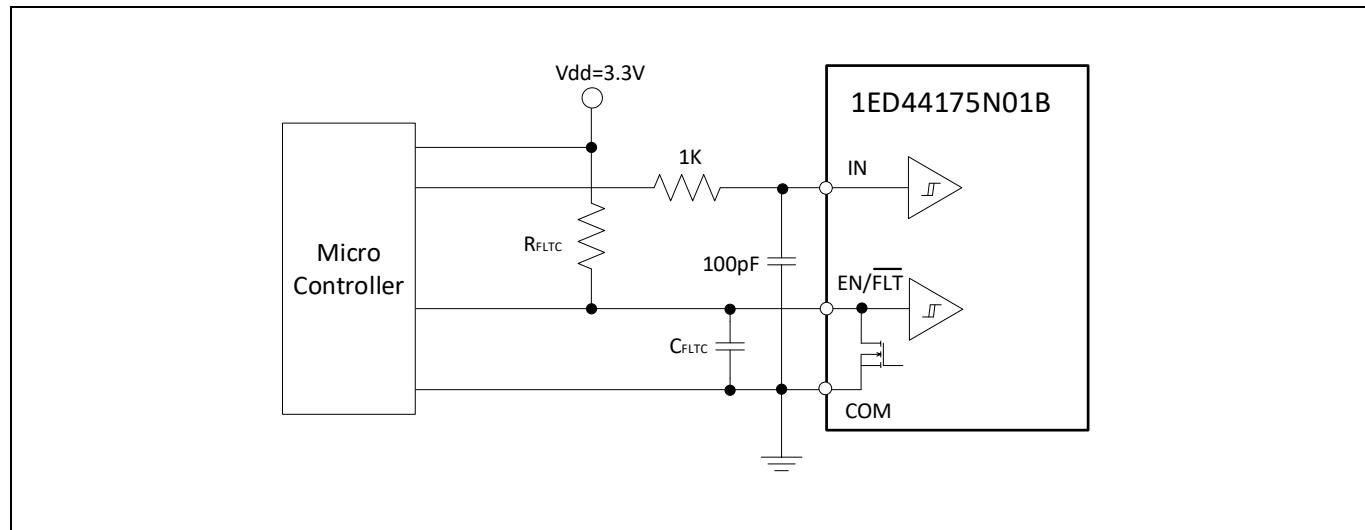
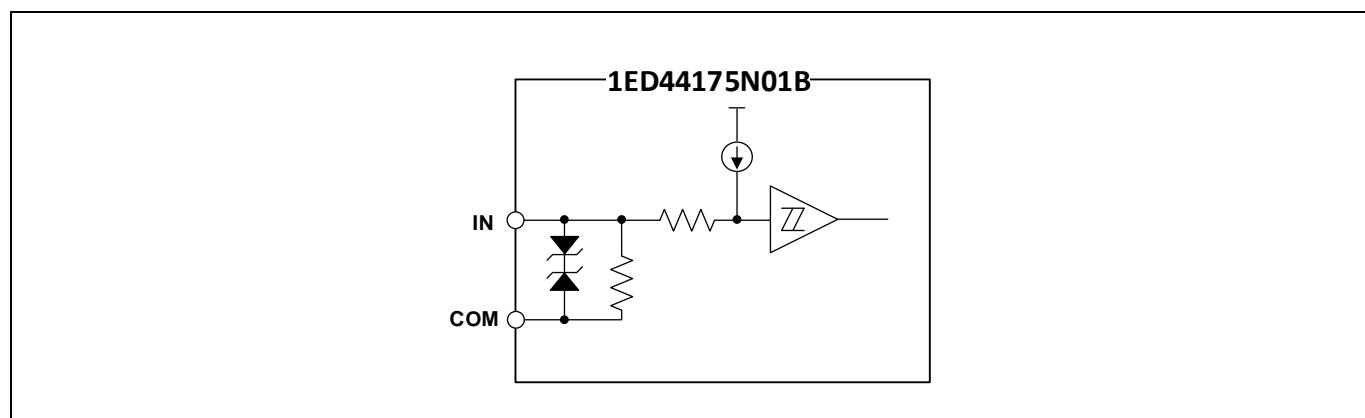

Figure 3 Recommended micro-controller I/O interface circuit
Figure 4 Simplified input structure diagram of 1ED44175N01B
- To prevent signal oscillations, an RC coupling is recommended as illustrated in Figure 3.
Figure 3 shows the I/O interface circuit between a micro-controller (μ C) or digital signal processing (DSP) and the 1ED44175N01B. The 1ED44175N01B input logic is active-high. The EN/FLT output is an open-drain configuration. This signal should be pulled up to high by an external logic power supply with a pull-up resistor. RC (1 K Ω / 100 pF) is recommended for the “IN” pin to prevent input noise.
As shown in Figure 4, the 1ED44175N01B input signal section integrates a pull-down resistor. Therefore, when using an external filtering resistor between the micro-controller output and 1ED44175N01B input, pay attention to the signal voltage drop at the 1ED44175N01B input terminal. It should fulfill the logic "1" input voltage requirement. For instance, $R = 1$ k Ω and $C = 100$ pF are recommended for the parts shown in Figure 3.